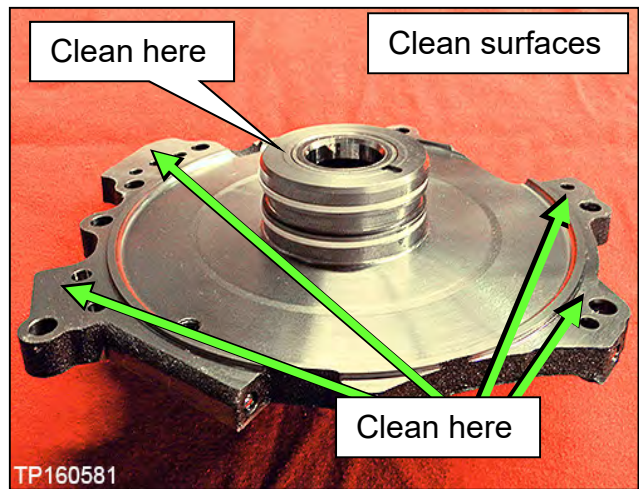

Figure 136
- a. Clean the dummy cover surfaces that contact the CVT case and thrust bearing (Figure 136).